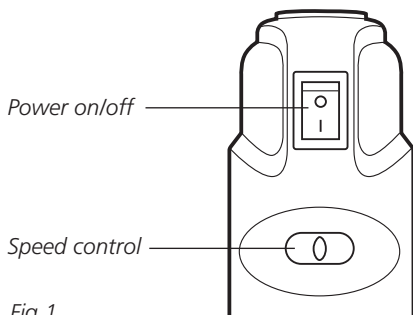

Fig 1
3. Ensure the speed control switch is in the far left-hand position (refer to Fig 1).